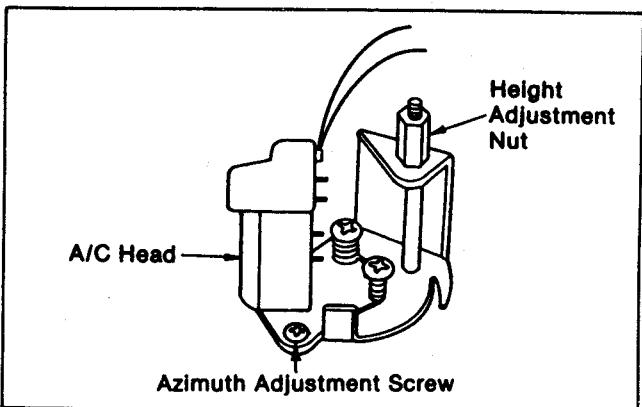

Fig. T6
- (1) Connect the oscilloscope to Audio Line Output.
- (2) Playback the Monoscope portion(6KHz, Mono) of the Alignment Tape.
- (3) Adjust the Azimuth Adjustment Screw on the A/C Head Base as shown in Fig.T6 so that output level is at a maximum.